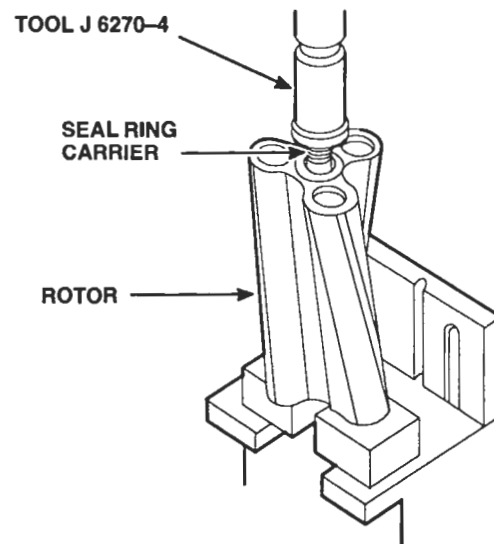

Figure 15. Installing Oil Seal Ring Carrier on Blower Rotor Shaft
- f. Support one of the blower end plates, inner face up, on wood blocks on the bed of an arbor press (Figure 15.)